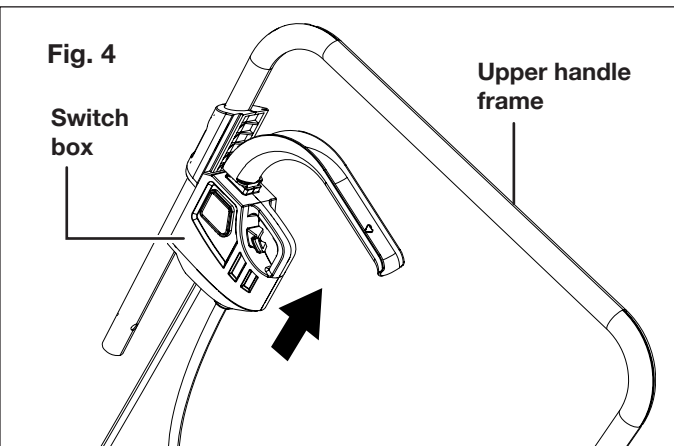

Fig. 4
3. Slide the switch box on the left side of the upper handle frame until it clicks and locks in position (Fig. 4).